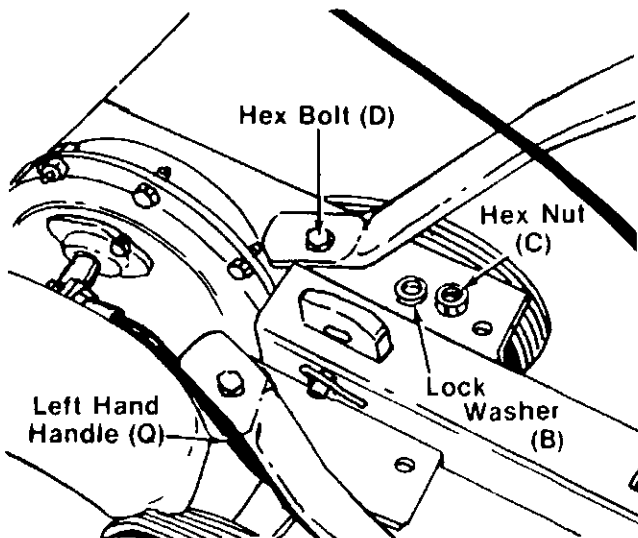

FIGURE 8.
8. The left handle has a clutch grip already assembled to it. Assemble the left and right hand handles (Q and R) to the rear tiller frame as shown in figure 8. Secure with hex bolts (D), lock washers (B) and hex nuts (C), finger tight only (do not tighten).